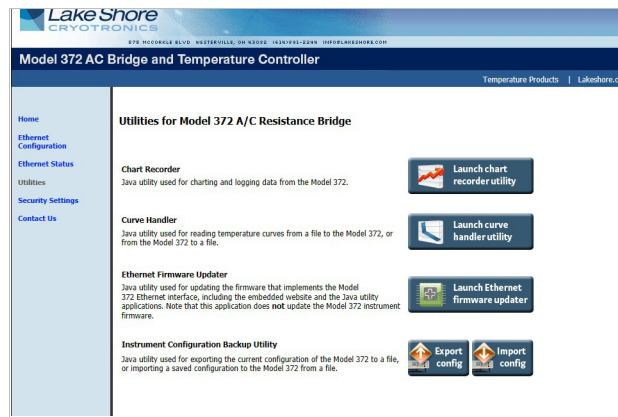

FIGURE 6-7 Utilities page
1. On the **Utilities** page in the Model 372 embedded website, click **Export config** (FIGURE 6-7).
1. On the **Utilities** page in the Model 372 embedded website, click **Import config** (FIGURE 6-7).